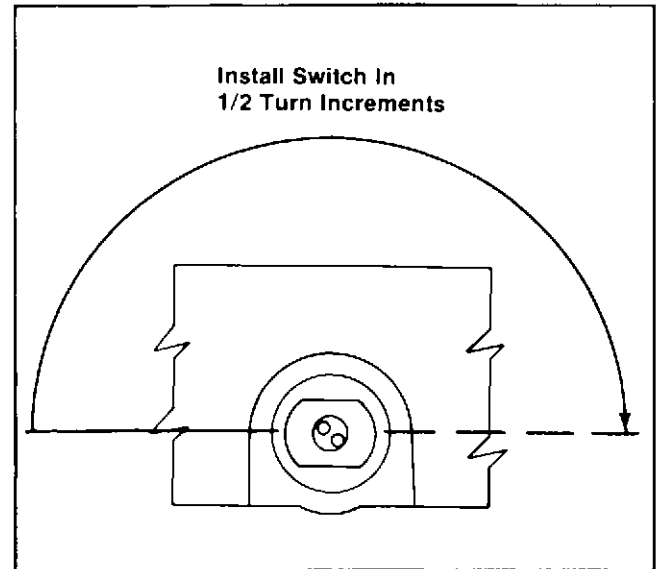

Figure 8-17. Float Switch Installation.
6. Turn the switch clockwise in 1/2 TURN INCREMENTS using a smooth continuous action. Pause briefly between increments and keep the flat surface of switch in a horizontal position (parallel with base of oil pan.) Refer to Figure 8-17.